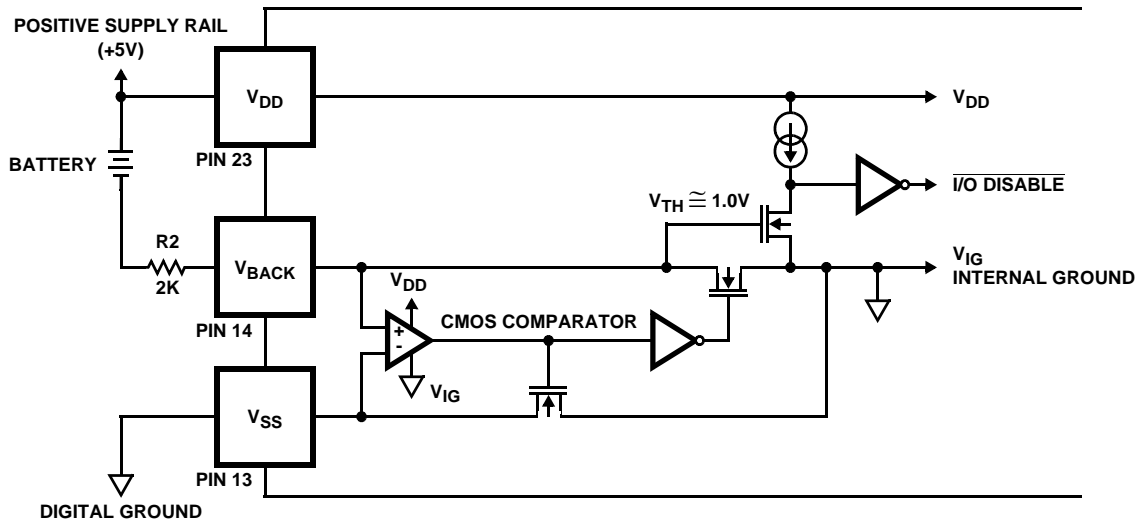

FIGURE 6. SIMPLIFIED ICM7170 BATTERY BACKUP CIRCUIT
The ICM7170 contains an on-chip power down detector that eliminates the need for external components to support the battery-backup switchover function, as shown in Figure 6. Whenever the voltage from the V_{SS} pin to the V_{BACKUP} pin is less than approximately 1.0V (the V_{TH} of the N-channel MOSFET), the data bus I/O buffers in the ICM7170 are automatically disabled and the chip cannot be read or written to. This prevents random data from the microprocessor being written to the clock registers as the power supply is going down.
The new load configuration (Figure 6) allows these two conditions to be met independently. The two load capacitors, C1 and C2, provide a fixed load to the oscillator and crystal. C3 adjusts the frequency that the circuit resonates at by reducing the effective value of the crystal's motional capacitance, C0. This minute adjustment does not appreciably change the load of the overall system, therefore, stability is no longer affected by tuning. Typical values for these capacitors are shown in Table 5. C1 and C2 must always be greater than twice the crystal's recommended load capacitance in order for C3 to be able to trim the frequency. Some experimentation may be necessary to determine the ideal values of C1 and C2 for a particular crystal.
4. EXTERNAL BATTERY BACKUP - The ICM7170 may be placed on the same power supply as battery-backed up RAM by keeping the ICM7170 in its operational state and having an external circuit switch between system and backup power for the ICM7170 and the RAM. In this case V_{BACKUP} should be pulled up to V_{DD} through a 2K resistor. Although the ICM7170 is always "on" in this configuration, its current consumption will typically be less than a microamp greater than that of standby operation at the same supply voltage (See Note 9). Proper consideration must be given to disabling the ICM7170s and the RAMs I/O before system power is removed. This is important because many microprocessors can generate spurious write signals when their supply falls below their specified operating voltage limits. $\overline{NANDING CS}$ (or \overline{WR}) with a POWERGOOD signal will create a \overline{CS} (or \overline{WR}) that is only valid when system power is within specifications. The POWERGOOD signal should be generated by an accurate supply monitor such as the ICL7665 under/over voltage detector. An alternate method of disabling the ICM7170's I/O is to pull V_{BACKUP} down to under a volt above V_{SS} ($V_{SS} < V_{BACKUP} < 1.0V$). This will cause the ICM7170 to internally disable all I/O. Do not allow V_{BACKUP} to equal V_{SS} , since this could cause oscillation of the battery backup comparator (See Figure 6). $V_{BACKUP} = V_{SS} + 0.5V$ will disable the I/O and provide enough overdrive for the comparator.